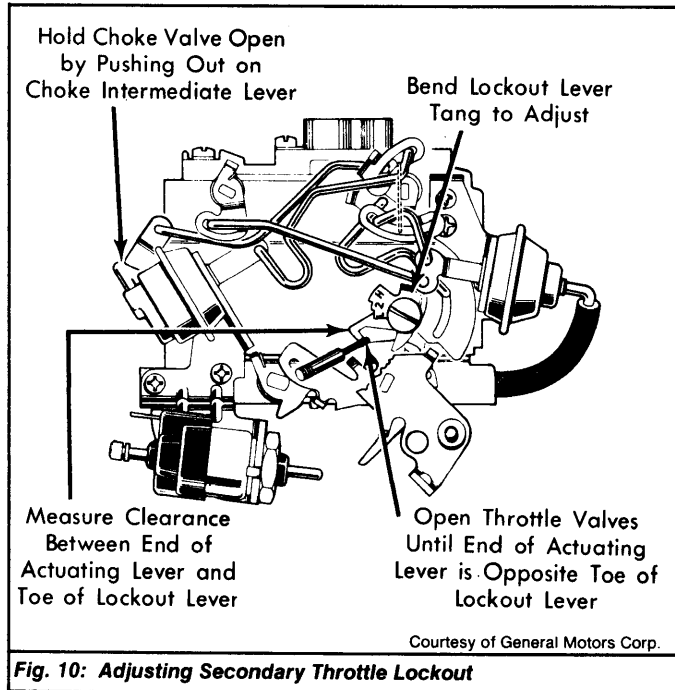

Fig. 10: Adjusting Secondary Throttle Lockout
- 1) Hold choke valve wide open by pushing down on intermediate choke lever. See Fig. 10. Open throttle lever until end of secondary actuating lever is opposite toe of lockout lever.